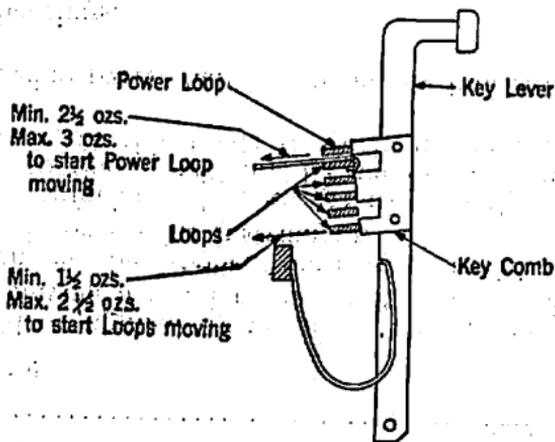

Fig. 1
3.02 **Loop Springs:** Pressure of power loop spring shall be Min. 2-1/2 ozs., Max. 3 ozs. and the pressure of all other loop springs shall be Min. 1-1/2 ozs., Max. 2-1/2 ozs., measured by pulling on the corresponding loop at a point adjacent to a key lever comb when the key levers are in a vertical position, as shown in Fig. 1.